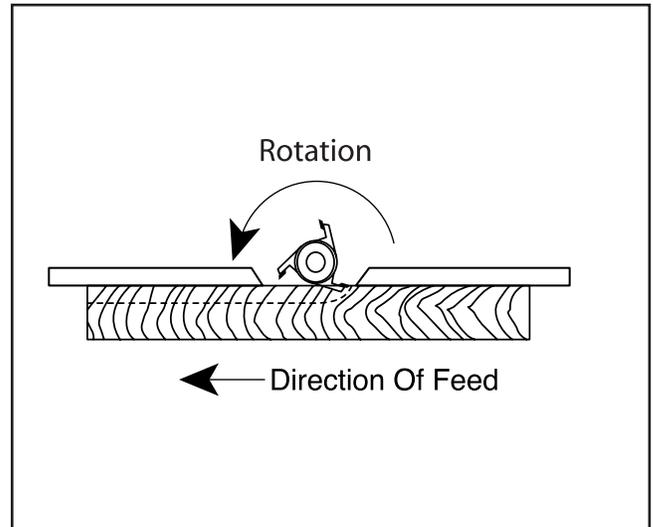

Figure 36. Fence adjustment for blind cuts.
- Run a test piece through the shaper as shown in **Figure 36.**